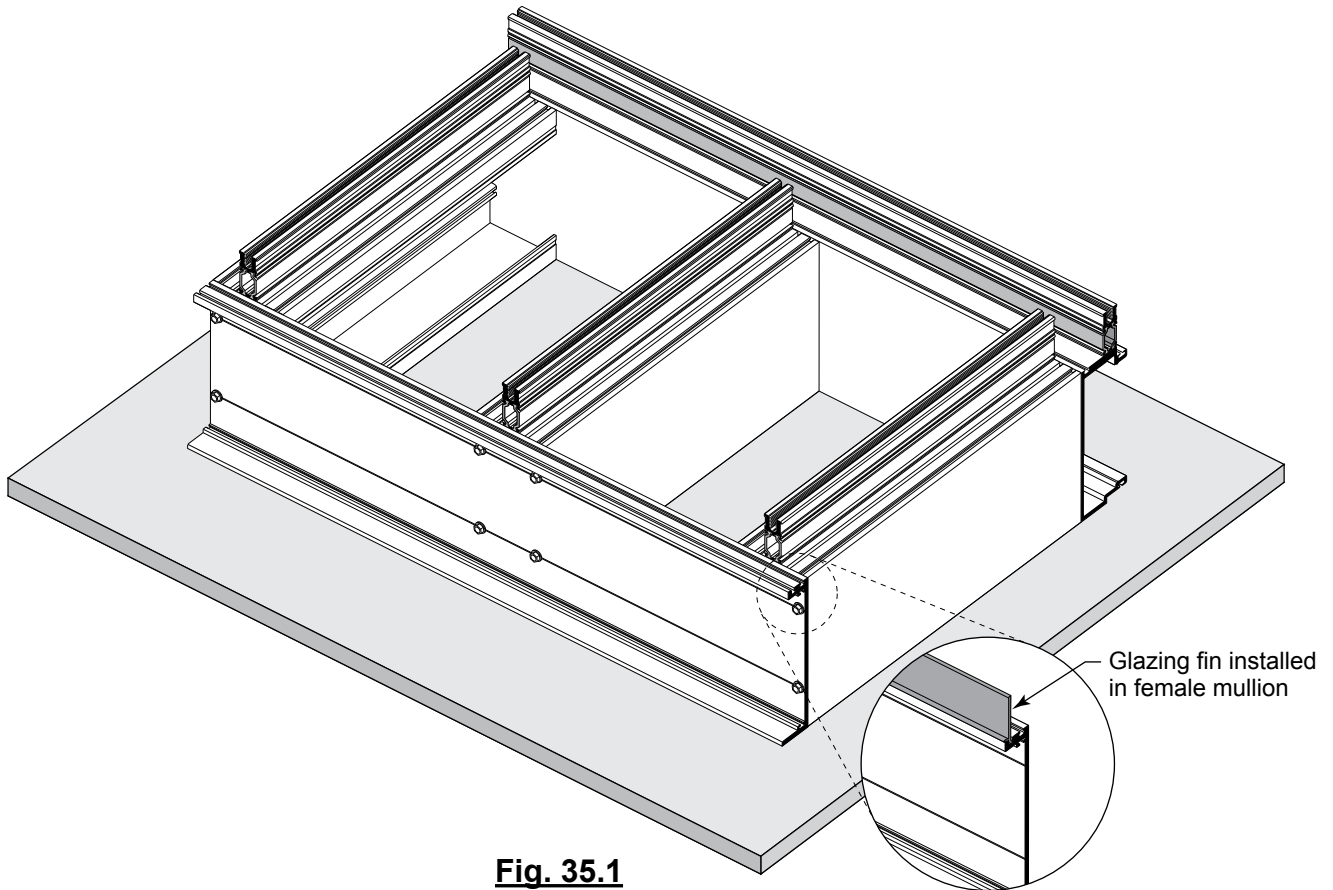

Fig. 35.1
- E. For SSG vertical applications, install the P4631 SSG spacer gasket into vertical mullion with equal overlap into each horizontal pocket. See **Fig. 34.2** and **Fig. 35.1**.
- F. For pre-glazing applications, install P4631 SSG spacer gasket at the interior reglet of all captured and SSG mullions. See **Fig. 35.1**. **Note:** The 400TU Screw Spline system is designed for limited pre-glazing and is not intended to be a fully unitized system. Consider weight, staging and handling issues when determining whether pre-glazing is the correct method for a given application.